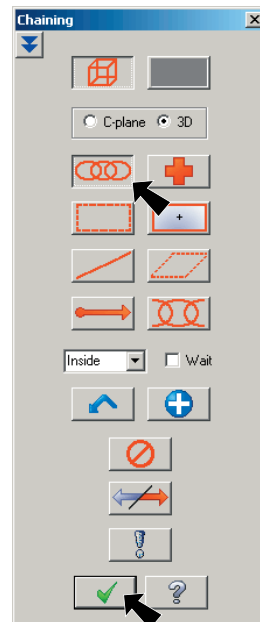

Fig. 4
Step 4. Click the Chain button  in the Chaining dialog box, Fig. 4.
Step 5. Click the circle and then click the OK button  in the Chaining dialog box, Fig. 4.